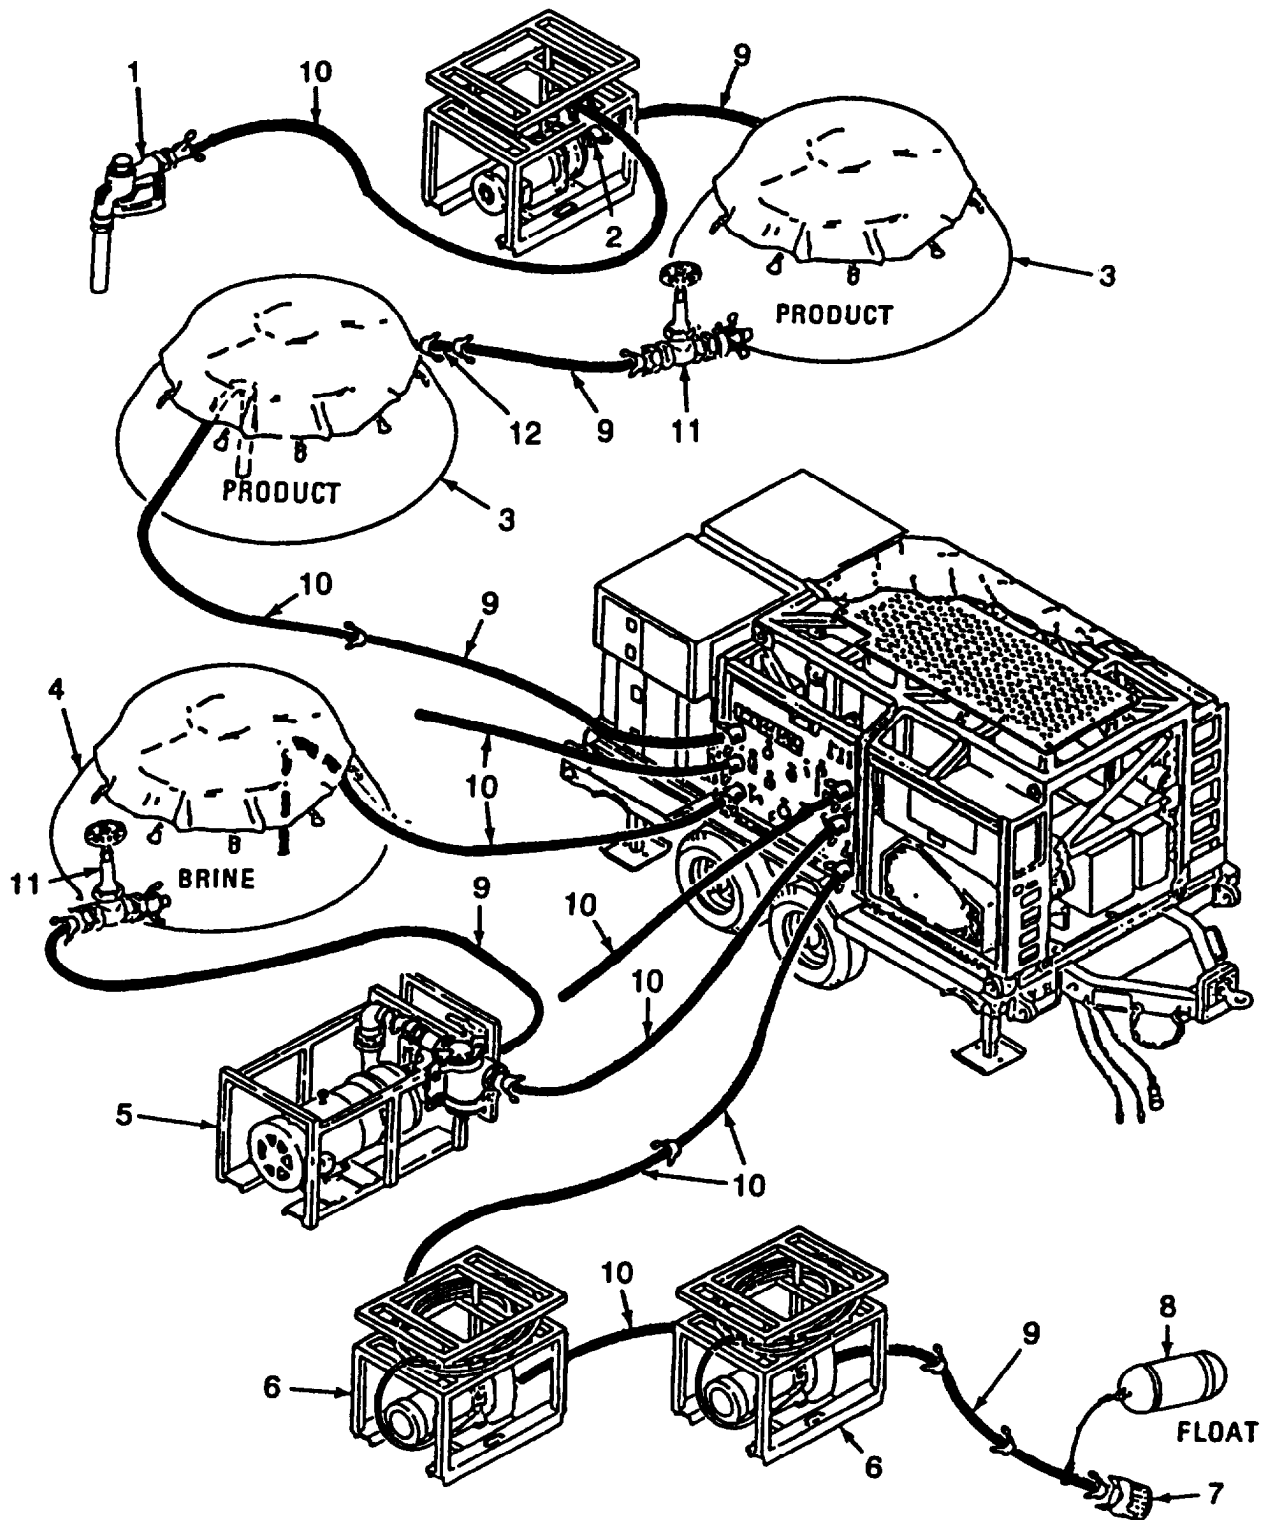

Figure 1-2. Accessory Items.
- c. Accessory Components. Refer to figure 1-2, The following paragraphs describe major accessories supplied with the ROWPU that are used to operate or service the unit. Couplings, tools, and chemicals are stowed in the storage chests.